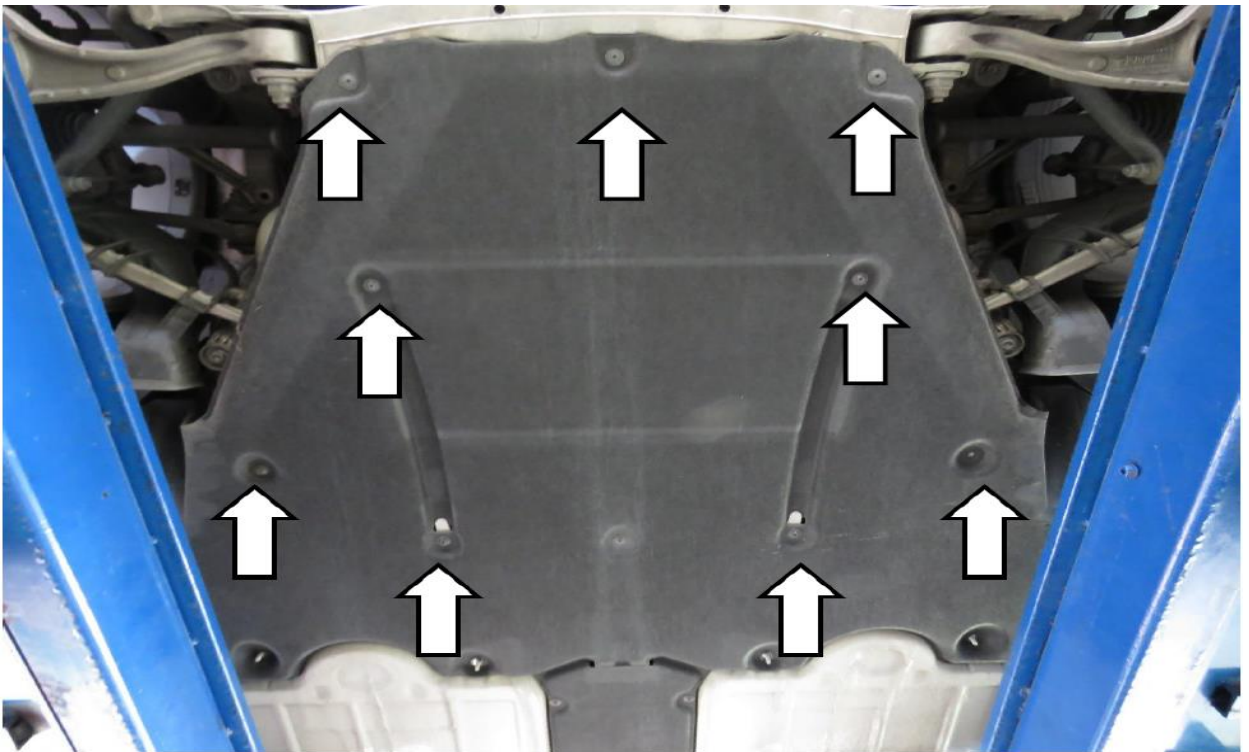

figure 1
1. Remove the plaque fixing screws and remove the plaque (Figure 1).